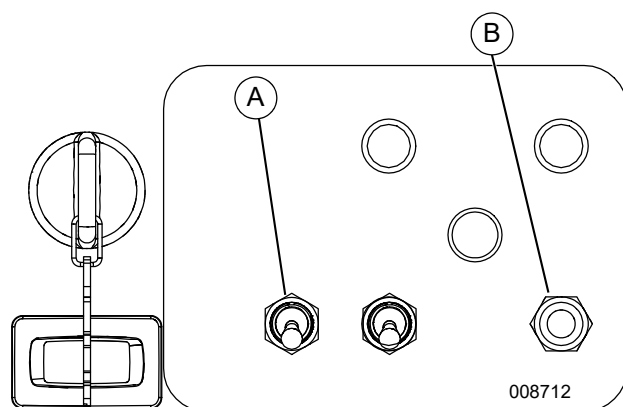

Figure 3-11. Light Switches and Breaker
2. See Figure 3-11. Switch main circuit breaker (A) ON (I).
3. Switch light circuit breaker (B) ON (I).